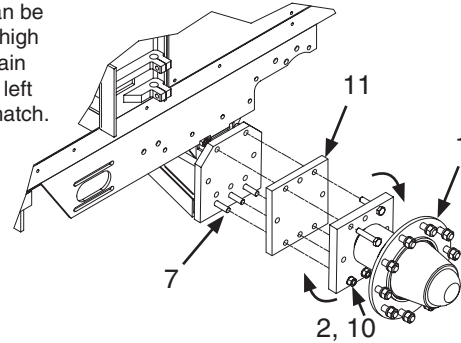

Figure 2-3-3 - Mounting Hub to Axle
D. (See Figure 2-3-3) Place (5) Item 7 Bolts through the axle and Item 11 spacer plate. Place (1) Item 1 Spindle onto the axle. Place nuts (Item 2) and washers (Item 11) on bolts and torque and tighten as per torque chart on page 2-3-1.